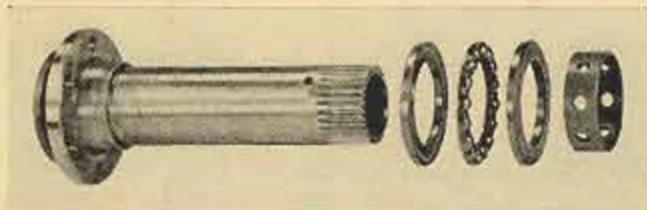

Fig. 1
1. If the converter is equipped with old original ball bearing type reactor shaft thrust bearing and spacer, (bearing assembly $\frac{5}{8}$ " wide and spacer $\frac{21}{64}$ " wide) replace it with the same type bearing and spacer using Part No. 421596 bearing and Part No. 421597 spacer. Fig. 1.